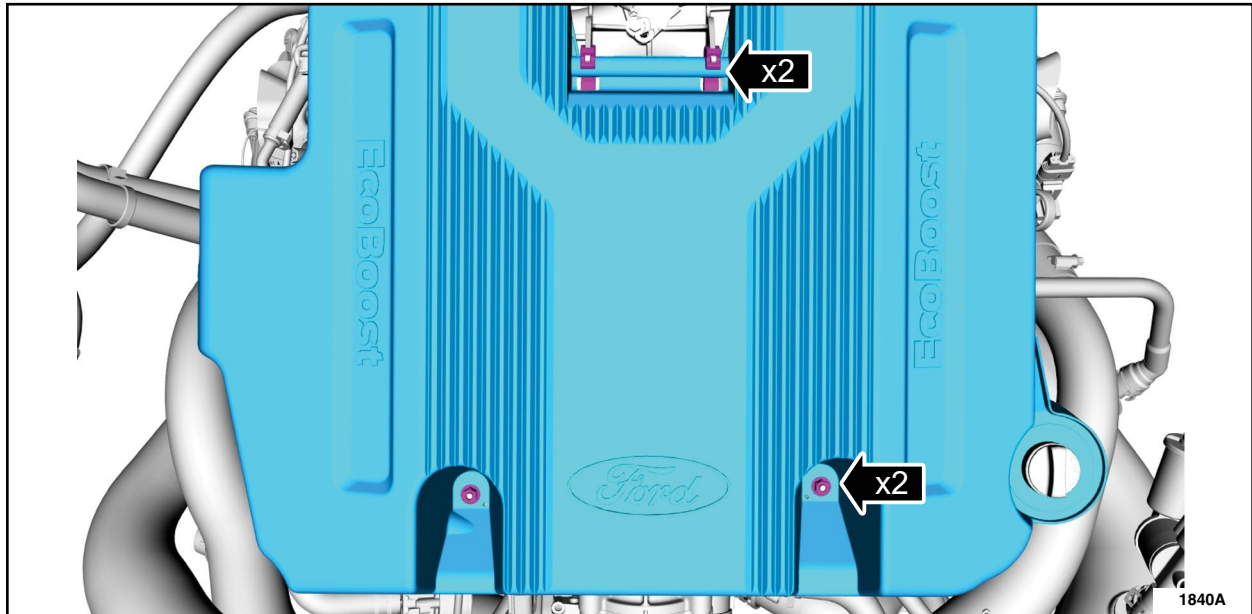

FIGURE 1
1. Remove the engine appearance cover. See Figure 1.
21. Install the engine appearance cover into the rear retainers, then install and tighten the engine appearance cover retainers. See Figure 1.